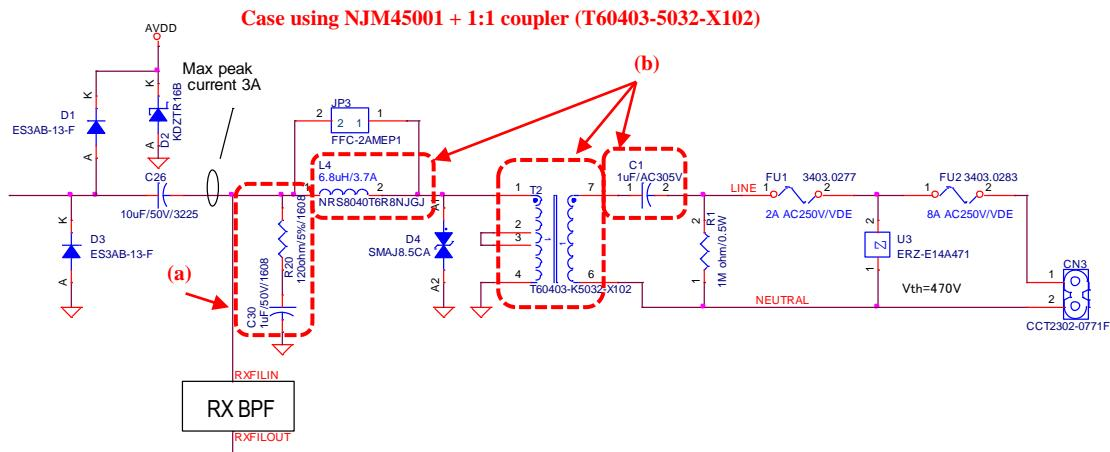

Figure 3-13 Example of impedance measures for EN50065-7 in CENELEC-A band
- The RX impedance at 3kHz-9kHz may not meet the EN50065-7 compatible impedance standard due to the resonance of C1 and T2 (main inductance). In order to suppress the peak due to the resonance, it is recommended to place R20=120Ω and C30=1uF in the part (a) of Figure 3-13.
- The TX impedance at 95kHz-148.5kHz may not meet the EN50065-7 compatible impedance standard due to the resonance frequency of C1 and (L4 + T2(leakage inductance)) in the part (b) of Figure 3-13. Set so that the resonance frequencies of L4 + T2 (leakage inductance) and C1 are within the band of CENELEC-A band.